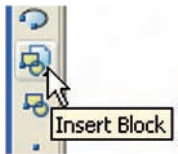
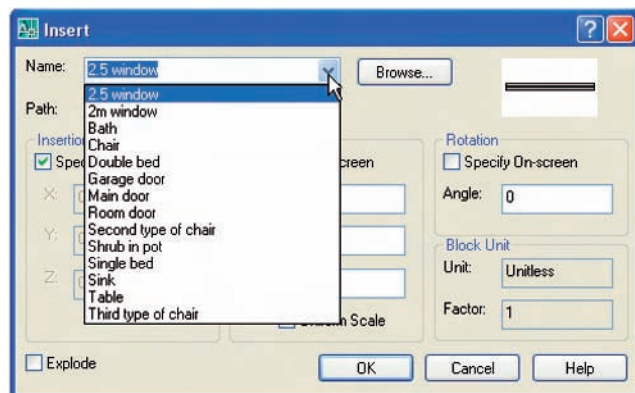

Fig. 9.6 The **Insert Block** tool icon in the **Draw** toolbar
Fig. 9.7 The **Insert** dialog with its **Name** popup list displaying the names of all blocks in the drawing
1. **Left-click** the **Block** tool icon in the **2D Draw control panel** or the **Insert Block** tool in the **Draw** toolbar (Fig. 9.6). The **Insert** dialog appears on screen (Fig. 9.7). From the **Name** popup list select the name of the block which is to be inserted, in this example the **2.5 window**.